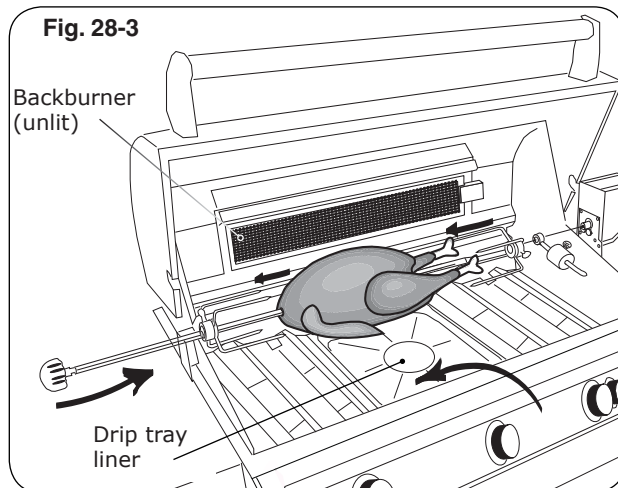

Fig. 28-3
4. Slide the left meat holder onto the rod (and tighten), the meat onto the rod and into the holder, followed by the right meat holder onto the rod and into the meat as shown in Fig. 28-3. Tighten the right meat holder. Be sure the meat is centered and balanced as well as possible.
9. To keep drippings off the burners and simplify cleanup, place Fire Magic® drip tray liners under the meat, if desired (Fig. 28-3).